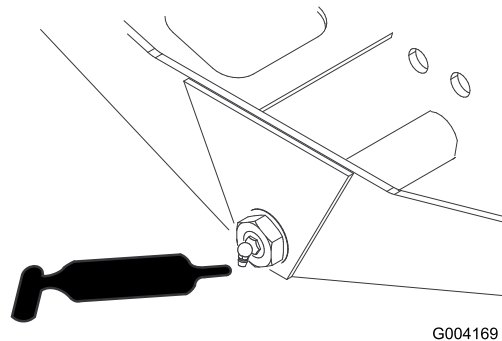

Figure 51
- Axle-steering pivot (1) (Figure 51)